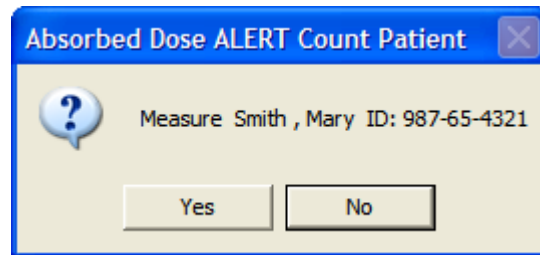

Figure 9-23
- Click the **Count** button to begin counting the selected patient. Figure 9-23 will appear confirming the selected patient. To cancel the test or if the incorrect patient was selected, click the **No** button, otherwise click **Yes** to continue.